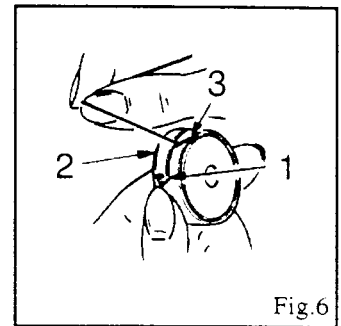

Fig.6
Pull the thread into slot (1), under the tension spring (2) and into slot (3) as shown in Fig. 6.